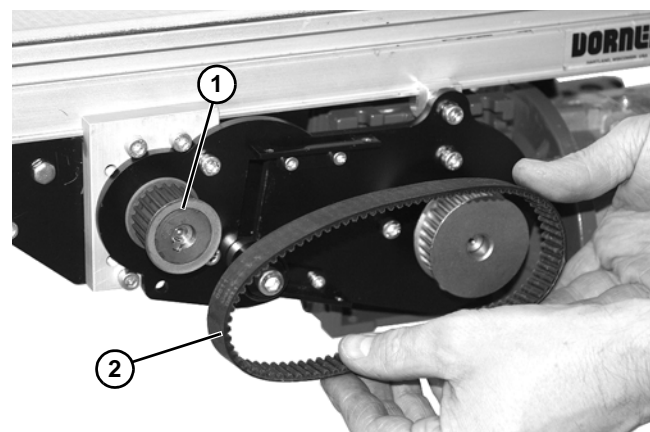

Figure 18
3. Loosen driven pulley set screws and remove driven pulley (Figure 18, item 1) and timing belt (Figure 18, item 2).